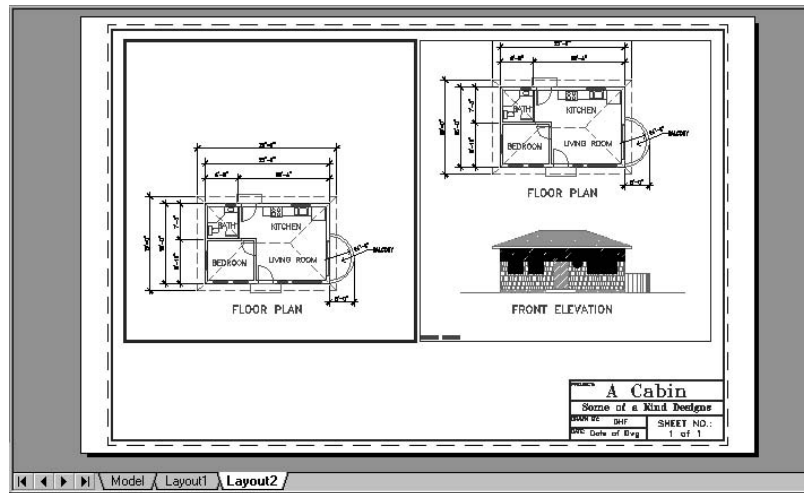

FIGURE 13.14: The text in the two viewports is aligned.
6. At the next prompt, click Insert Osnap again. Click the left viewport to make it active, and then click the FLOOR PLAN text. The floor plan in the left viewport is panned down so that its title is aligned with the title of the front elevation in the right viewport (see Figure 13.14). Press Esc to end the Mvsetup command.
Now you have the result as in Figure 13.14 (shown earlier). There are one or two more things to do to finish the layout.